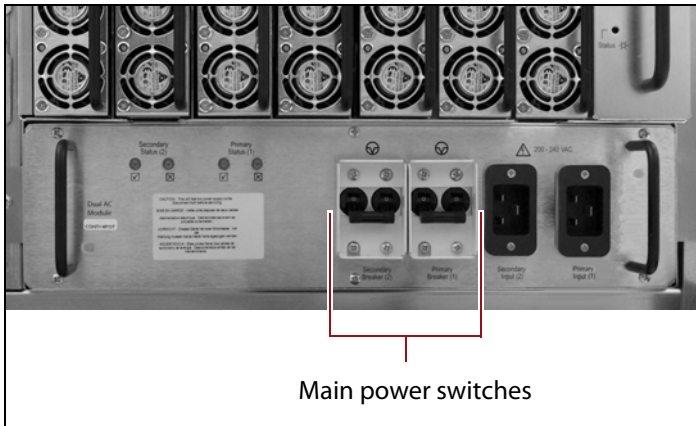

Figure 31 Turn off AC breaker switches on the main frame and drive frames.
3. Set the AC breaker switches on the back of the library main frame and drive frames to the off position (see Figure 31).